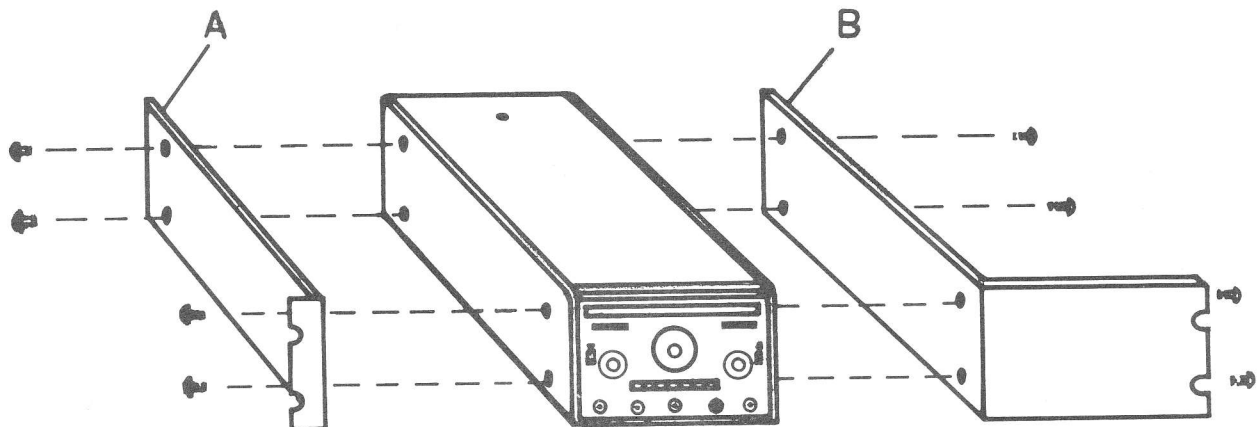

Figure 2-1. K-103 Rack Mounting
- c. Rack Mount Kit — K103. Mounts single instruments in a 5-1/4 inch space. See Figure 2-1.
2.1.4 K-103, Rack Mounting Kit (Refer to Figure 2-1)